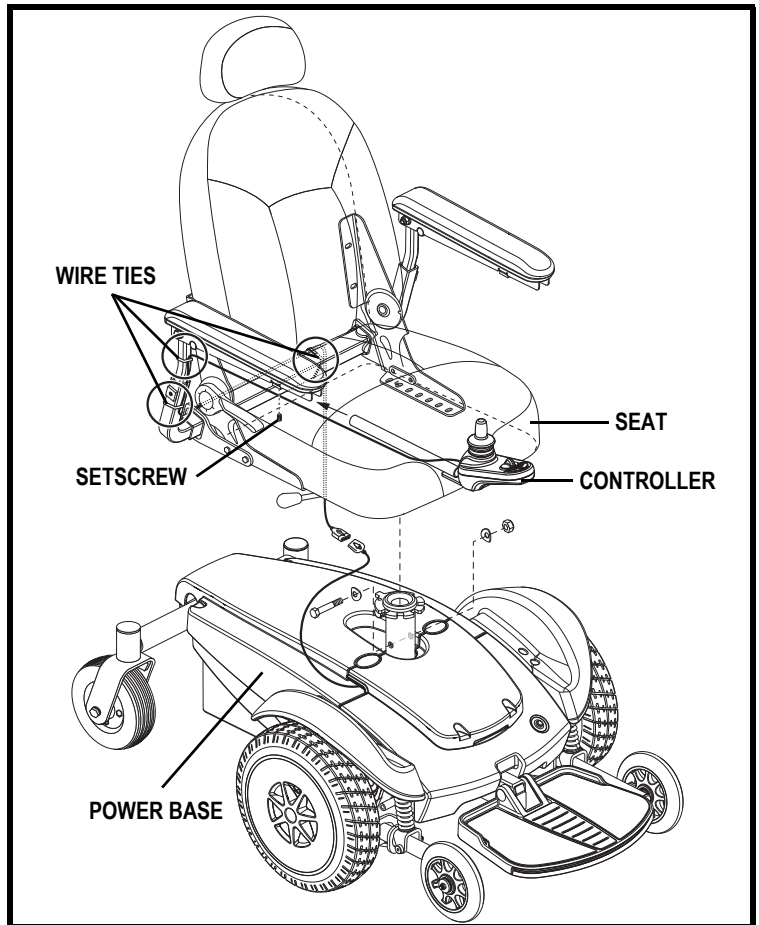

Figure 10. Seat and Controller Assembly
1. Adjust the upper seat post to the desired position and insert the bolt through the seat post and secure with the nut. See figure 10.
2. Slide the seat down onto the upper seat post. See figure 10.
3. Install the controller into one of the armrests. Tighten the setscrew with the supplied hex key. See figure 10.
4. Lift the armrest straight up, then route the controller harness and secure with wire ties as shown in figures 10 and 11.
10. Route the controller harness along the seat frame and secure with wire ties. See figures 10 and 11.